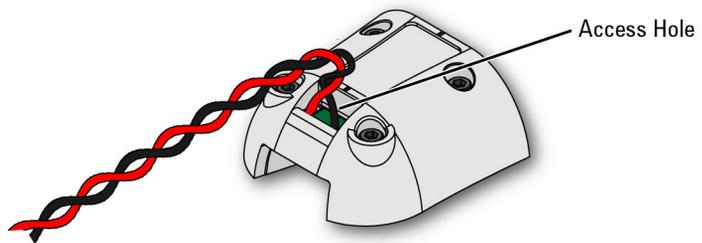

Figure 4 Placing the Leads into the Tip’s Access Hole
- 1 Position the sensor leads into the head’s access hole as shown in Figure 4.